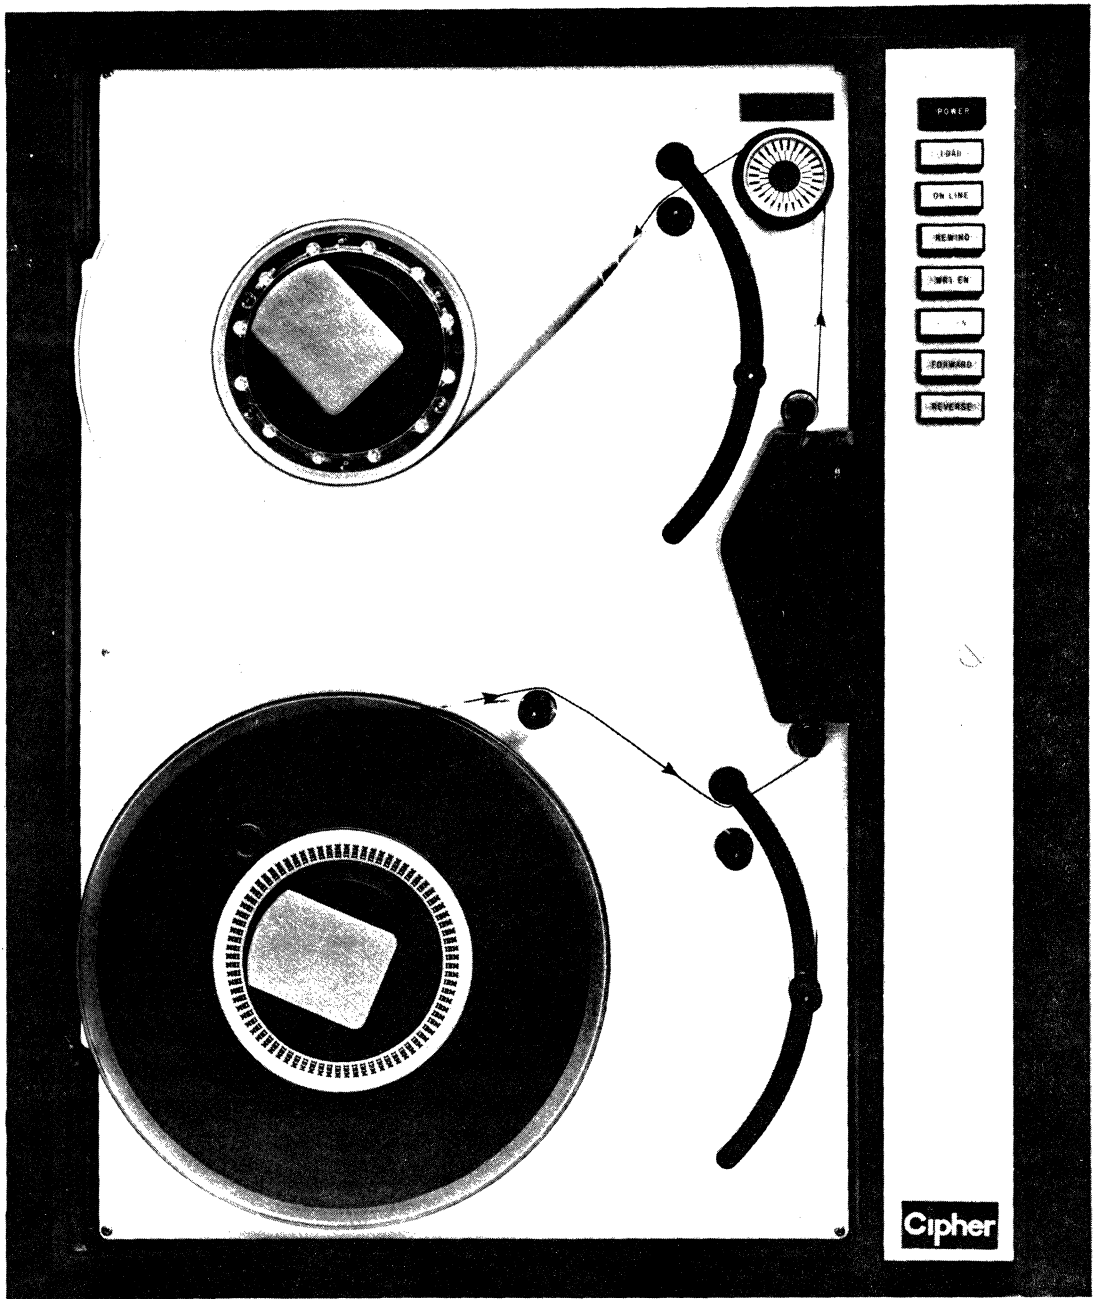

Figure 3-3. Operating Configuration (Tape Tensioned)
- f. Actuate LOAD pushbutton and observe that tape is tensioned. (See Figure 3-3.) Delay at this point is required to allow arm retractor mechanism to clear compliance arms. Actuate LOAD pushbutton again. Tape will advance until BOT tab is positioned at photosensor. LOAD indicator will illuminate, indicating transport is ready for use.